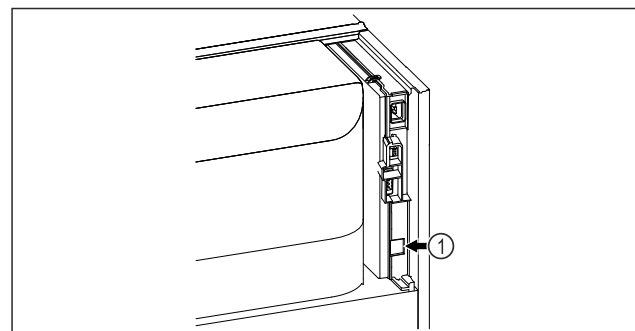

Fig. 109
- SmartModule *Fig. 109 (1)* is in use.